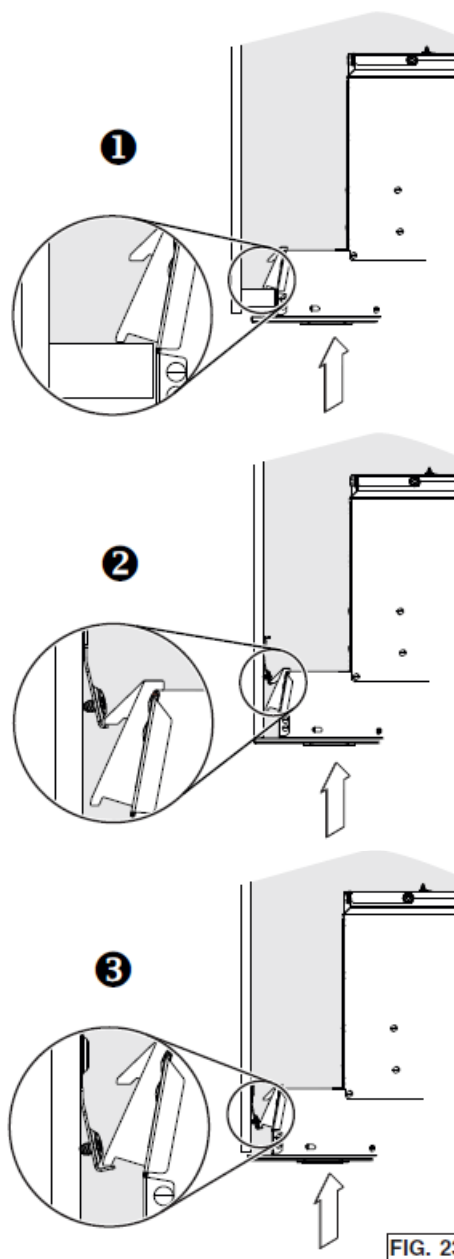

FIG. 23
3. (FIG. 23). Move the unit from left to right, from rear to front and up to ensure the Ease of Install hooks are retaining the unit inside the cabinet.